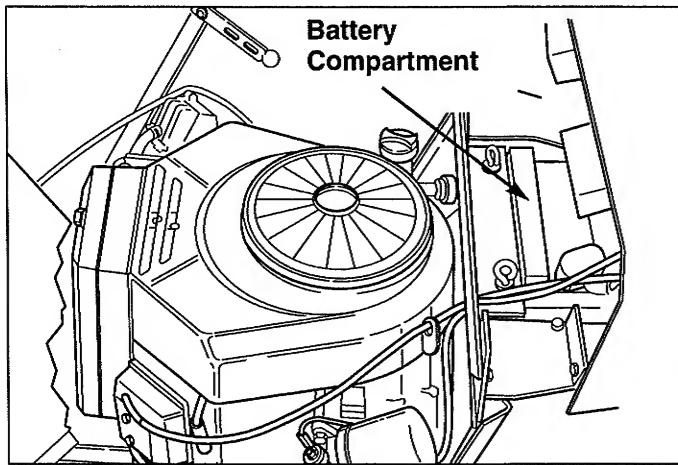

Figure 30. Battery Compartment
1. Raise the hood to access battery compartment (see Figure 30).